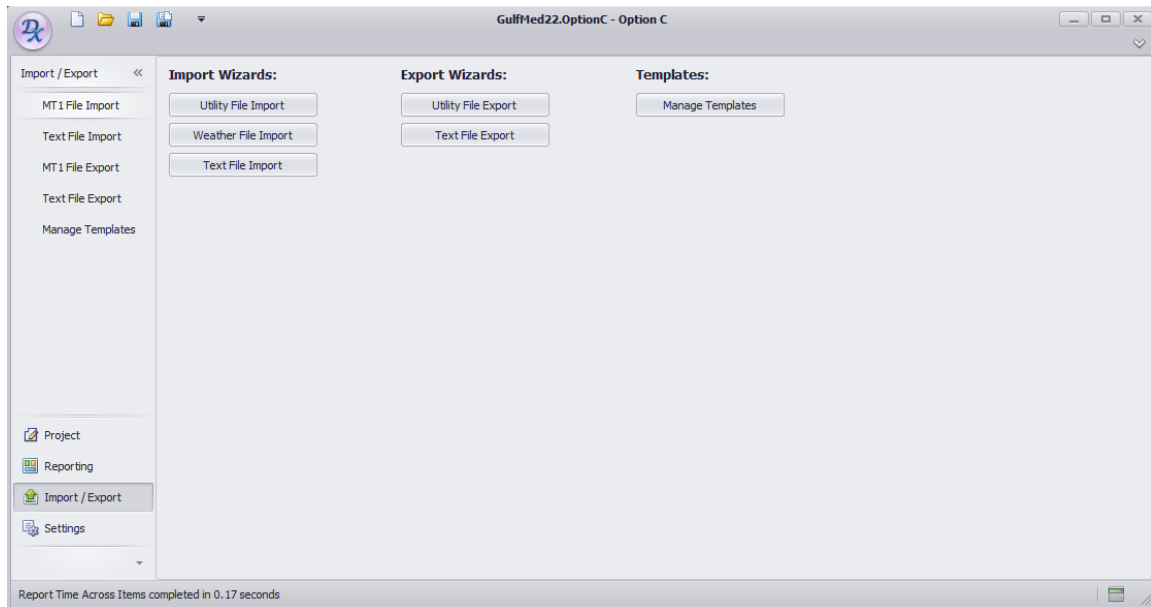
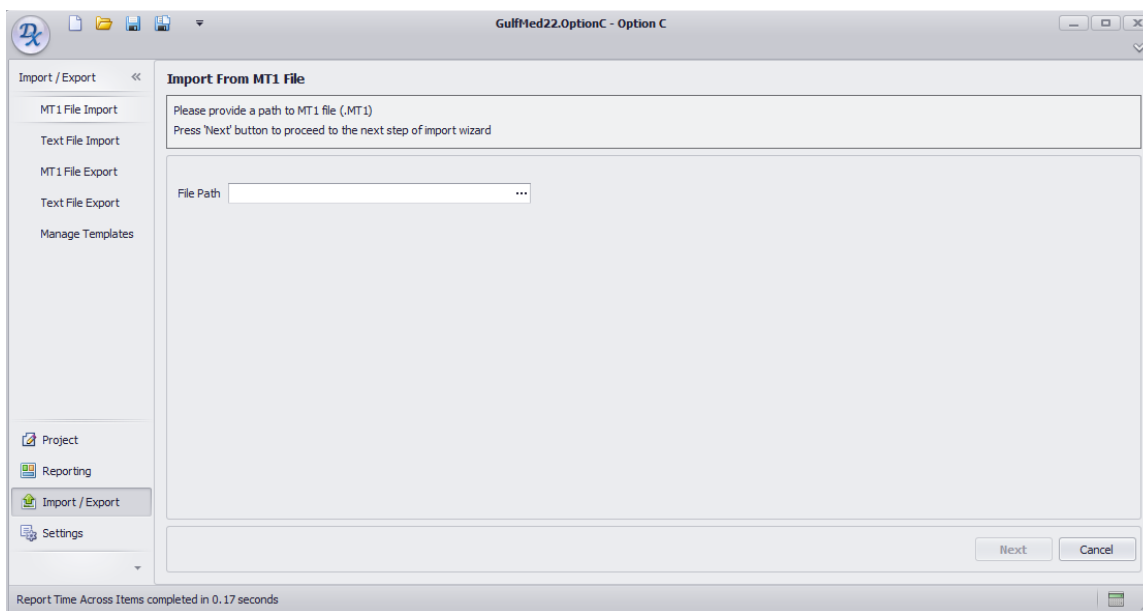
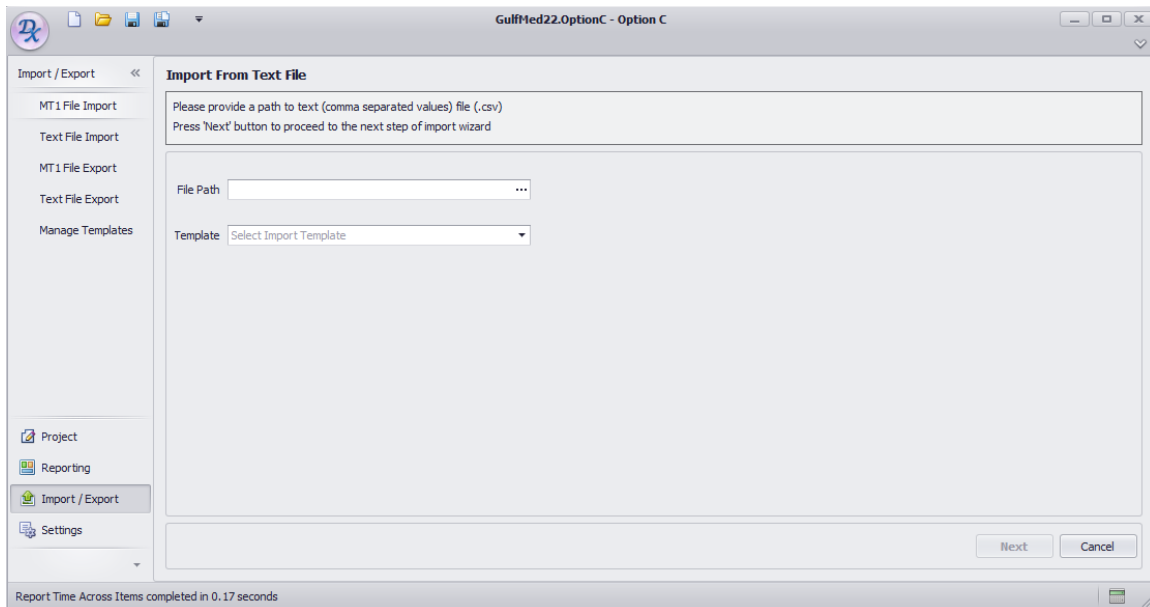
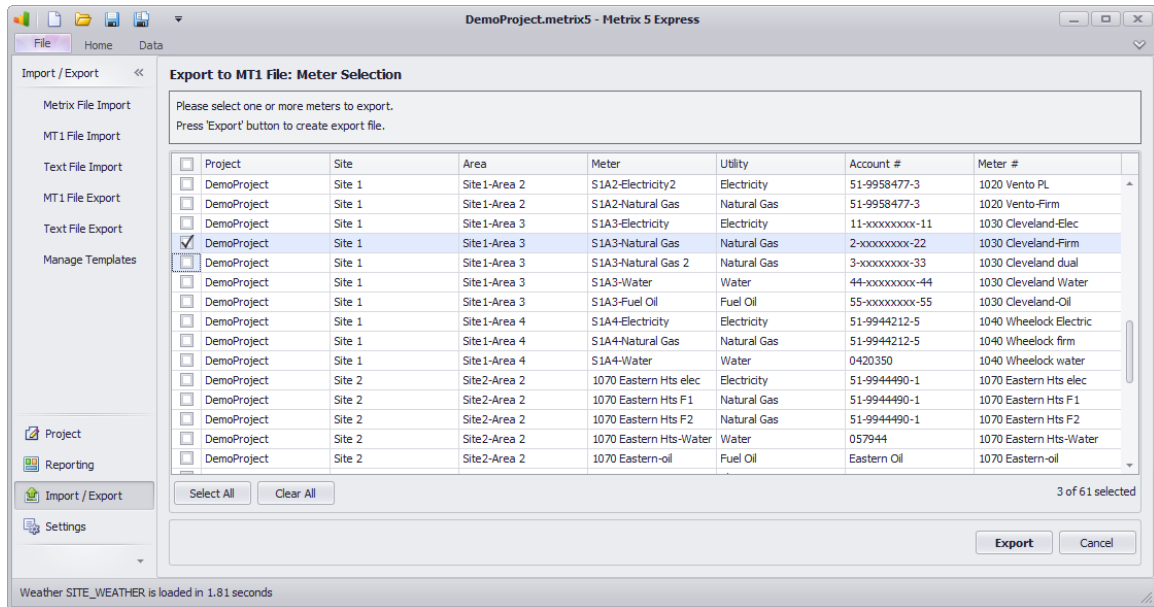

Figure 5.1: Import/Export main menu.
Figure 5.2: Window to enter the file path for the imported file.
Figure 5.7: Screen to import a text file into Option C.
Figure 5.8: Utility File Export main screen.
Bill data, weather data, variable data and other data, can be easily imported or exported in Option C. To use this feature select the Import/Export option from the side-viewer menu (see Figure 5.1). A menu with all the available options will appear in the Data Panel.
1. **Select the MT1 file:** Click on the Utility File Import button in the main menu shown in Figure 5.1. A new window, as shown in Figure 5.2 will appear. This window will ask you to provide the file path.
Option C imports weather data of a certain format, Hi-Low daily temperatures, available from our website. To import data, click on the Weather File Import button in the main menu, shown in Figure 5.1. The Weather File Import screen shown in Figure 5. will appear.
In order to import a text file a predefined template is required. If you have not defined a template yet refer first to section 5.3 Templates in order to create one. Only text files in csv format can be imported. Click on the Text File Import button in the main menu shown in Figure 5.1. The Text File Import screen shown in Figure 5.7 will appear.
1. **Open the MT1 Export screen:** Click on the Utility File Export button in the main menu shown in Figure 5.1. A new window as the one shown in Figure 5.8 will appear.
1. **Open the Text File Export screen:** Click on the Text File Export button in the main menu shown in Figure 5.1. A new window as the one shown in Figure 5.2Figure 5. will appear.
Templates are guide files required to import or export text files. By creating a template you will be able to import/export files with billing information in your preferred format. In order to create a Template click the "Manage Templates" button in the main Import/Export menu shown in Figure 5.1. A window like the one shown in Figure 5.42 will appear.